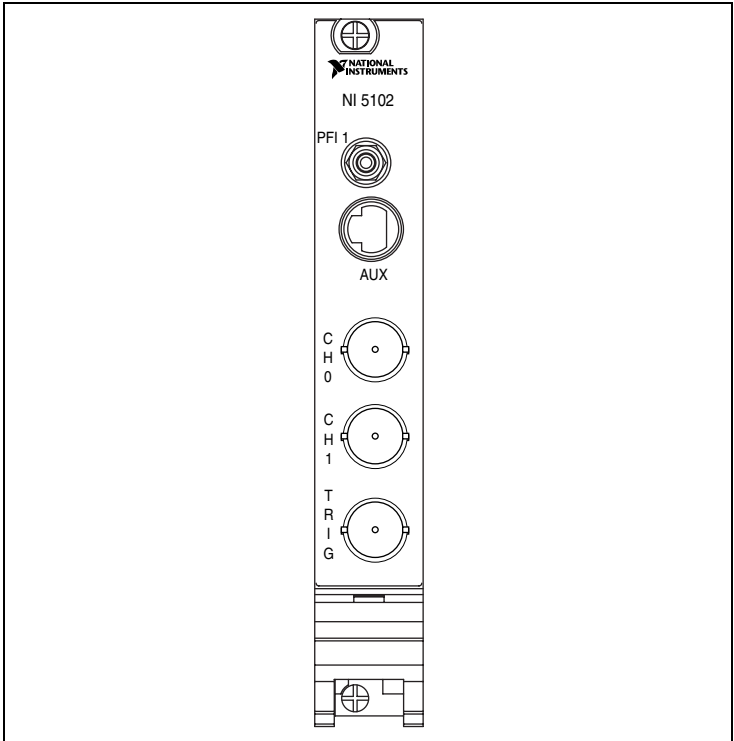
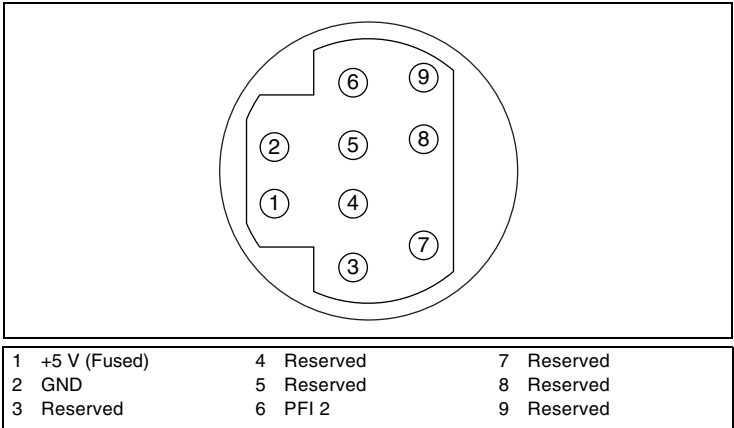
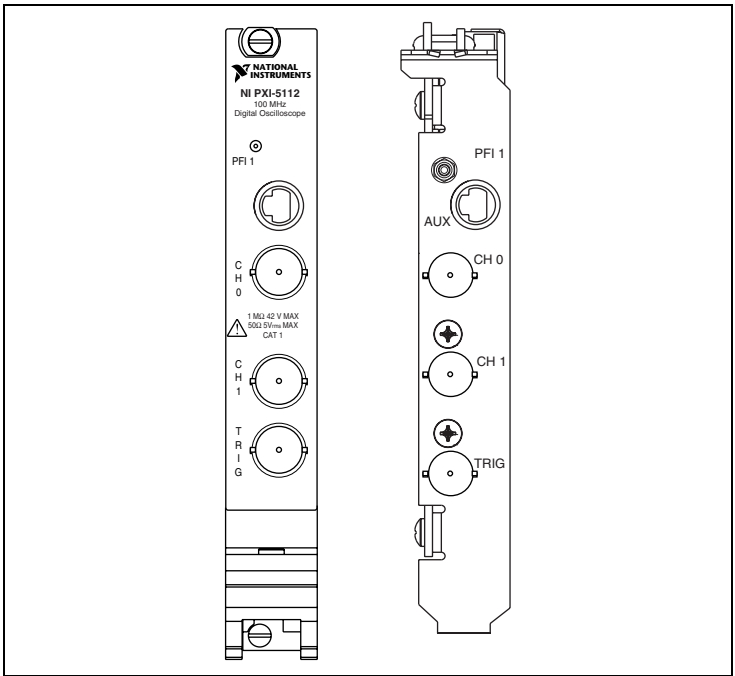
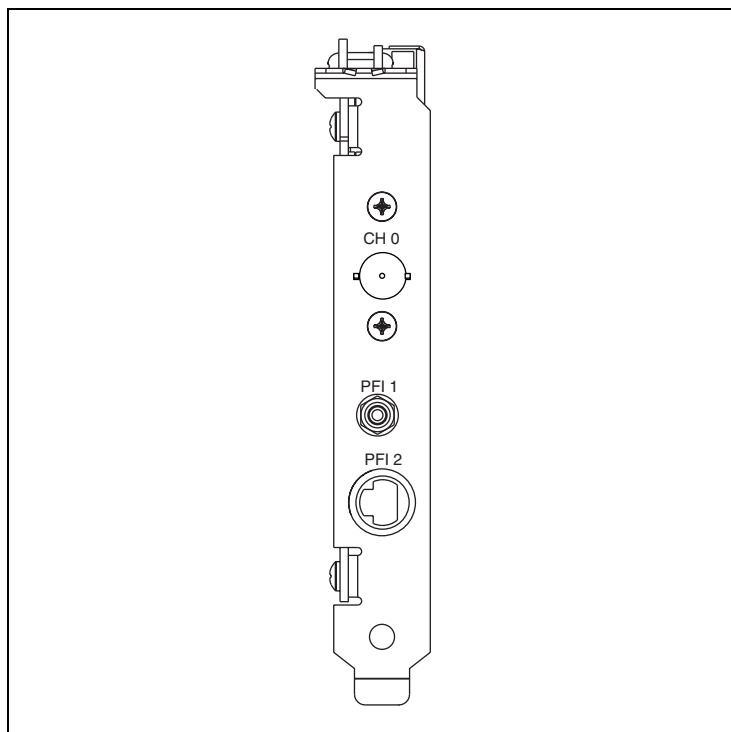

Figure 7. NI PXI-5102 Front Panel
Figure 8. 9-Pin DIN Connector for NI PXI-5102, NI PXI/PCI-5112, and NI PCI-5911
Figure 12. NI PXI/PCI-5112 Front Panels
Figure 16. NI 5911 Front Panel
- ◆ **NI PXI-5102**—Figure 7 shows the NI PXI-5102 front panel. Refer to Figure 8 for the AUX connector pinout information.
Figure 8 shows the pin assignments for the 9-pin DIN connector on the NI PXI-5102.
Figure 12 shows the NI PXI-5112 and the NI PCI-5112 front panels. Refer to Figure 8 for the AUX connector pinout information.
Figure 16 shows the NI 5911 front panel. Refer to Figure 8 for the PFI 2 (AUX) connector pinout information.